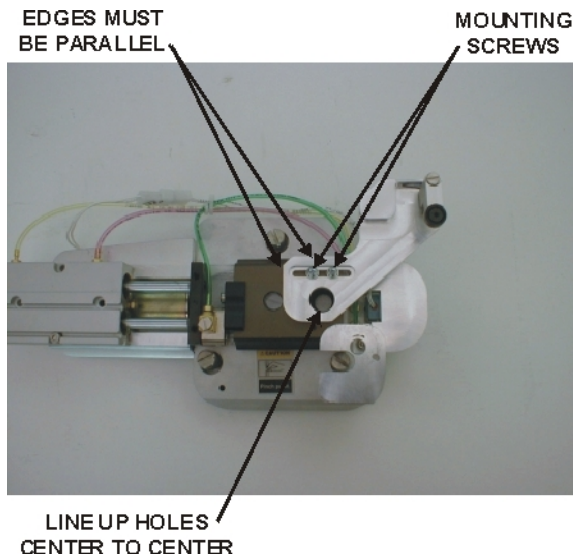

Figure 9-5
4. Loosen the carousel actuator arm mounting screws. Refer to Figure 9-5, page 9-32.